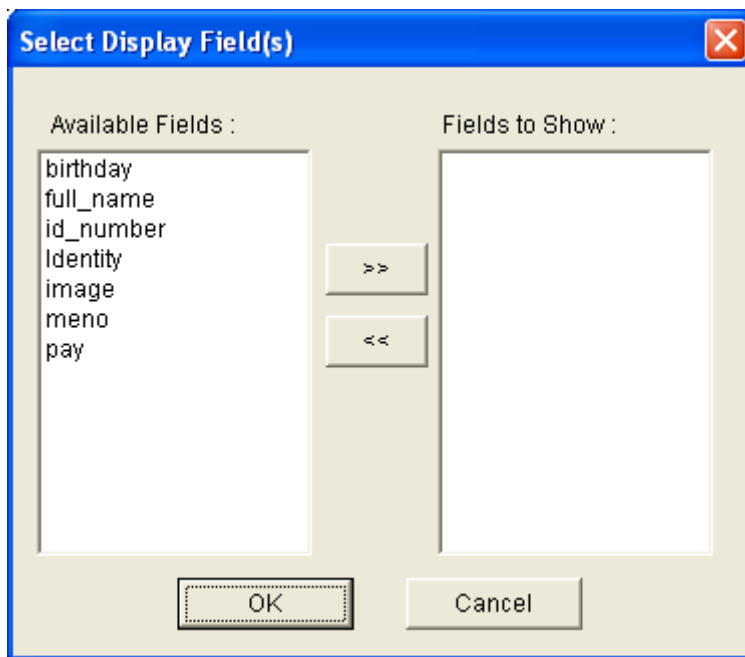

Figure 4-9
- **Select Display Field(s):** Specify the display fields on the screen, such as Card ID, Identity, Name and Memo (see *Figure 4-9*).
- **Select Display Field(s):** Specify the display fields on the screen, such as Card ID, Identity, Name and Memo (see Figure 4-9).